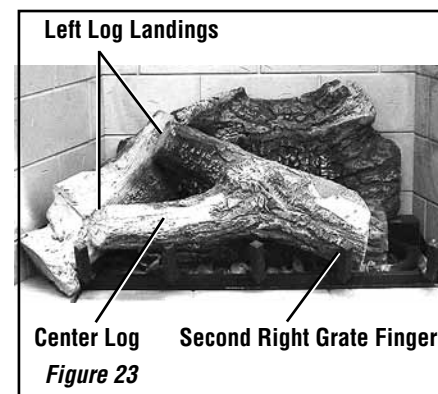

Figure 23
Step 4. Position the center log, see **Figure 23**, with the two branches sitting on the two landings provided on the top of the left log. The other end of the center log has a groove that should fit against the second right finger of the grate, as shown in **Figure 23**.